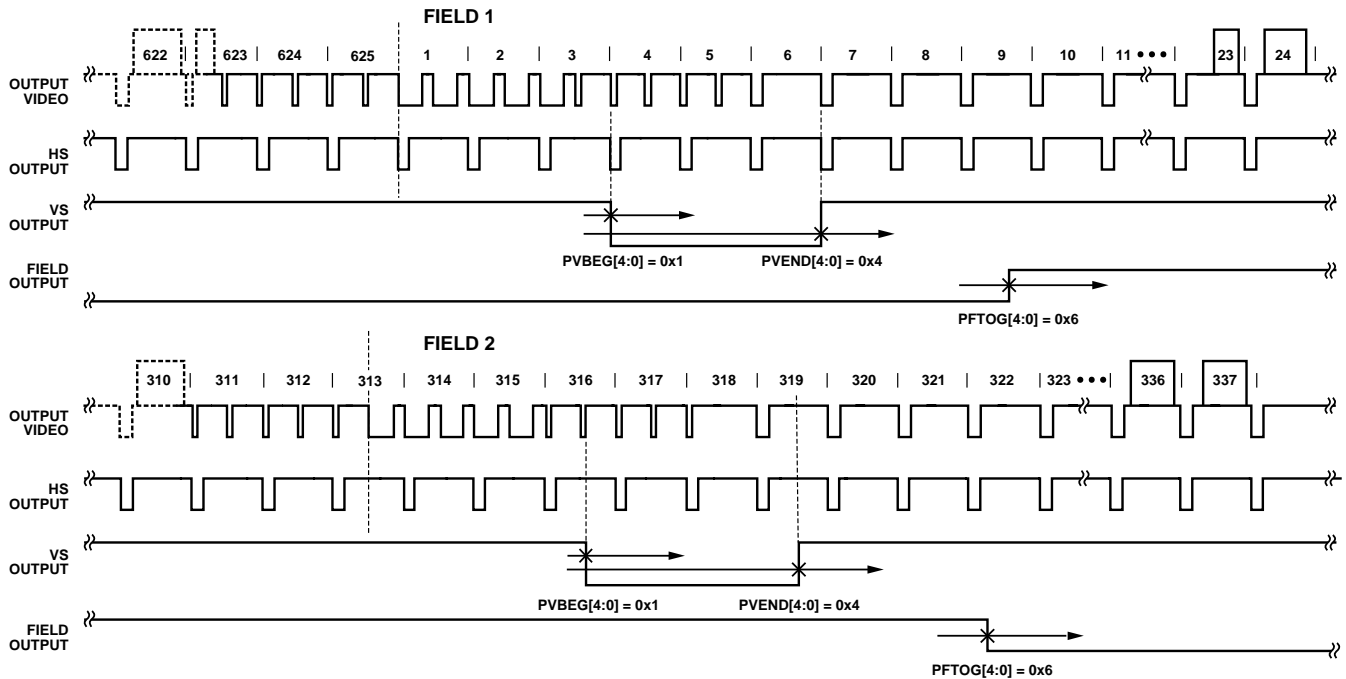

Figure 27. PAL Typical Vsync/Field Positions Using Register Writes in Table 57
**Table 57. Recommended User Settings for PAL (See Figure 27)**